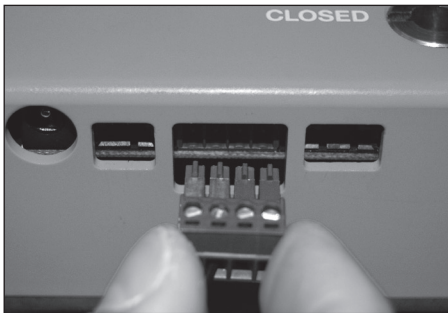

Figure 11
4. Remove the green circuit board terminal strip from the Control Unit by pulling straight out on the terminal strip. **Figure 11**